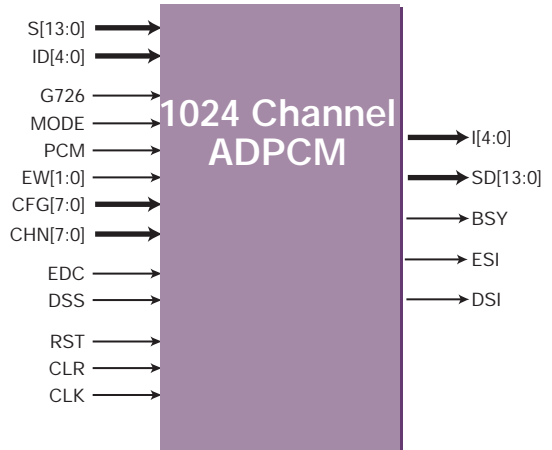

Figure 2: 1024 Channel ADPCM Core Pinouts
Pinout of the ADPCM core has not been fixed to specific FPGA I/O, allowing flexibility with a user's application. Table 2 gives the descriptions of the input and output ports (shown graphically in Figure 2) of the 1024 ADPCM codec. Unless otherwise stated, all signals are active high and bit (0) is the least significant bit.